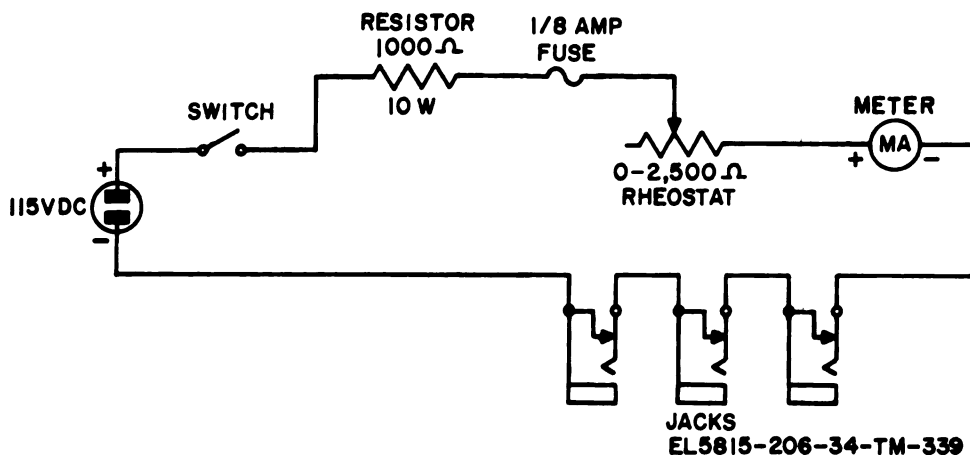

Figure 4-1. Direct current control device for testing high-level teletypewriters, schematic diagram.
(3) A locally fabricated direct current control device (fig. 4-1) is required for general support maintenance to test all high-level teletypewriters
| 1        | TS-352(*)/U:Functional switch:OHMSRange switch: RX10000   | MOTOR switch: ON  | <p>a. Calibrate the TS-352(*)/U resistance scale by touching the test leads together and adjusting the OHMS ZERO ADJ. control for a 0-ohm indication on the meter.</p> <p>b. Connect the TS-352(*)/U as shown in A, figure 4-1. Note the indication on the meter.</p> <p>c. Move the TS-352(*)/U test lead from the power plug of the teletypewriter to line terminal binding post 2 and note the indication of the meter.</p>   | <p>b. The meter should indicate not less than 5 megohms.</p> <p>c. Same as b above.</p>   |
| 3        | RA-87-(*):POWER switch: ONDirect Current ControlDevice: Set rheostat in midpoint position   | MOTOR switch: ONLINE INCREASE knob:Maximum counterclockwiseLINE switch: VOICEFREQ. LINE | <p>a. Connect the equipment as shown in B, figure 4-1.</p> <p>b. Check the motor speed with a 180 vps tuning fork as follows:(1) Strike the tuning fork against the palm of the hand to start it vibrating.(2) Hold the tuning fork so that the motor governor target can be viewed through the vibrating shutters of the fork. Note the appearance of the target.</p> <p>c. Adjust the LINE INCREASE control on the teletypewriter and the DC Control Device rheostat for a 60-milliampere indication on the D. C. MILLIAMPERES meter on the teletypewriter.</p> <p>d. Check the keyboard lock. Loosen the thumbscrew and slide the lock to the rear. Tighten the thumbscrew. Press any of the keys and observe the transmitter action.</p> <p>e. Place the TS-383(*)/GG MOTOR switch in the ON position and the RUN-STOP switch in the RUN position.</p> <p>f. Unlock the RANGE dial lock on the teletypewriter by turning the lock one turn counterclockwise. Rotate the RANGE dial to 60 and lock it in place.</p> | <p>a. None.</p> <p>b. The motor governor target should appear to be motionless. (When not more than 3 spots pass a given point in 10 seconds, this requirement is considered to have been met.)</p> |